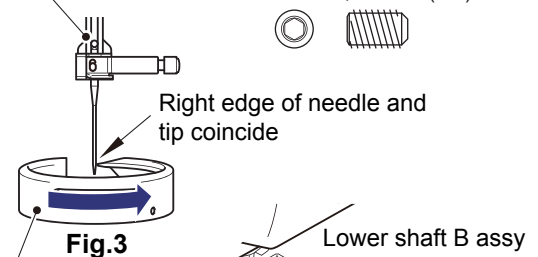

Fig.3
9. Turn the timing pulley by hand to the front, and adjust the right edge of the needle to be coincide with the outer rotary hook point. (Fig.3)